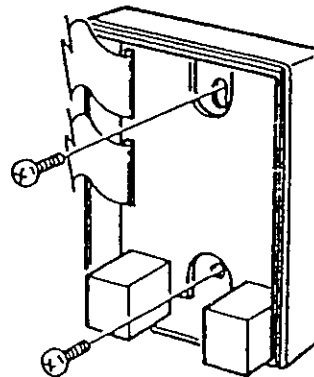

Figure 1-55 Attaching the SLT-F(1G)-13 ADP to the Wall
2. Using the two provided wood screws, attach the unit to the wall. Close the unit and secure with the two screws previously removed. (Refer to Figure 1-55 - Attaching the SLT-F(1G)-13 ADP to the Wall.)